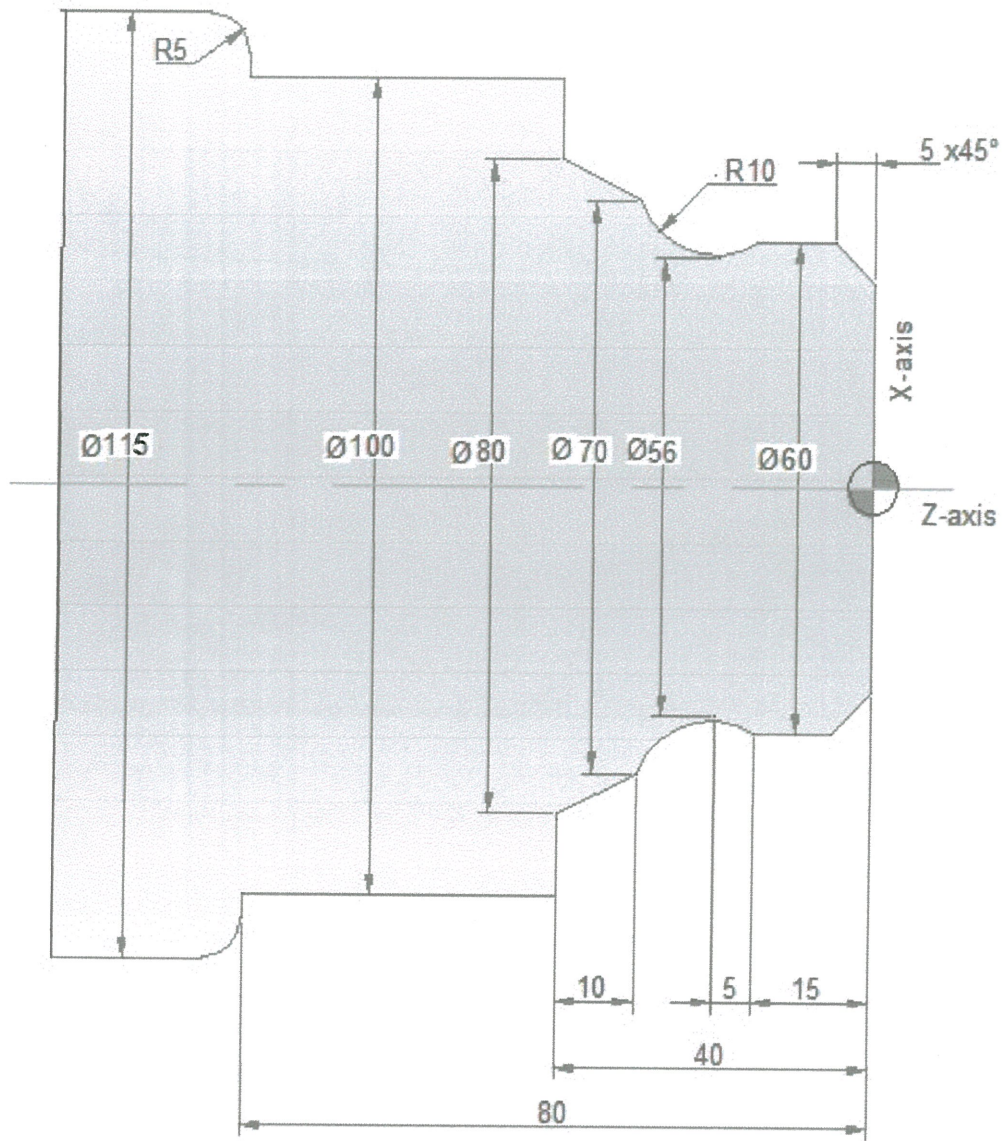

Figure Q1(a)
- Q1** (a) Referring to the drawing in **Figure Q1(a)**, appraise the suitable cutting method, tools and parameters to machine the mild steel round bar by using CNC lathe machine. The cutting speed apply is 330 m/min and the feedrate is 150 mm/min. The round bar total length is 105 mm. All dimensions unit are in millimeter (mm). (10 marks)
- (b) By applying the information in question Q1(a), construct a CNC lathe program to produce the parts as in the drawing in **Figure Q1(a)**. (10 marks)